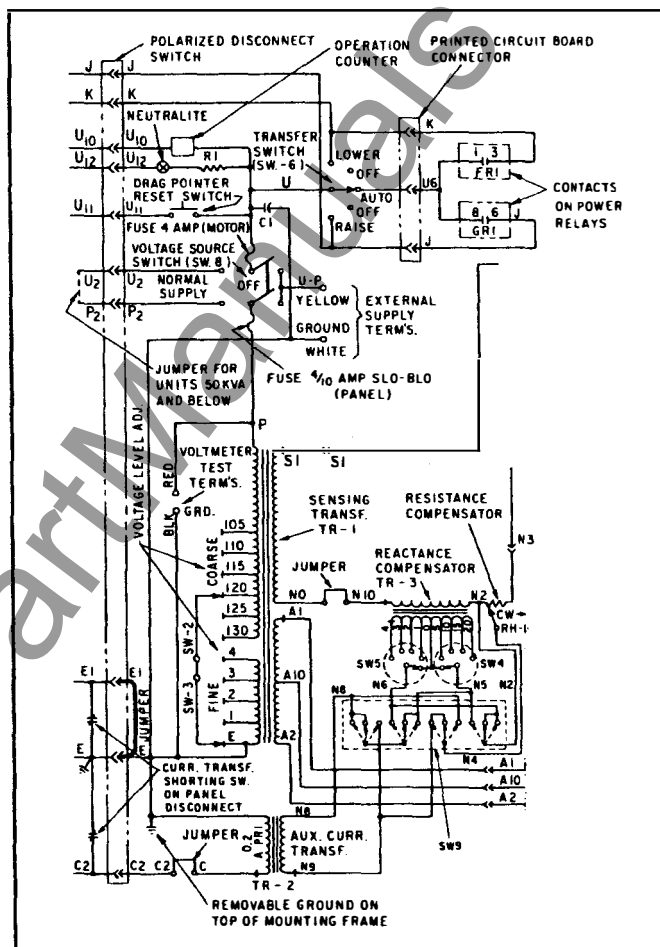

Fig. 4 IJ-2 input and sensing transformer circuit. (Refer to fig. 13, page 36 for IJ-2A input and sensing transformer circuit.)
17.0 INPUT AND SENSING TRANSFORMER CIRCUIT (Fig. 4)